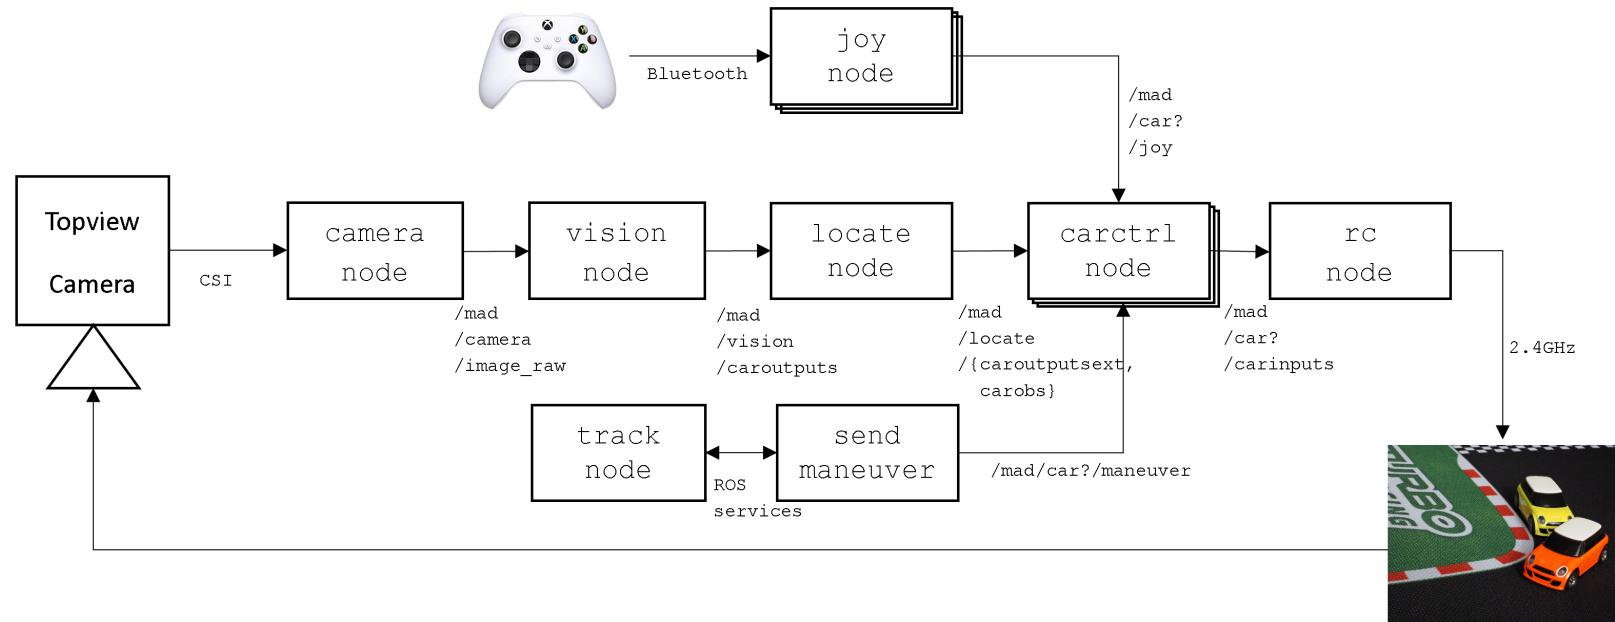

Figure 1: ROS2 nodes of MAD76 Driving Stack
- It contains the subsystems modeling and simulation the ROS2 nodes of MAD76 in Figure 1 plus the vehicle dynamics:
- ROS2 messages in Figure 1 are modeled as Simulink bus signals in `s06_sig_template.slx`